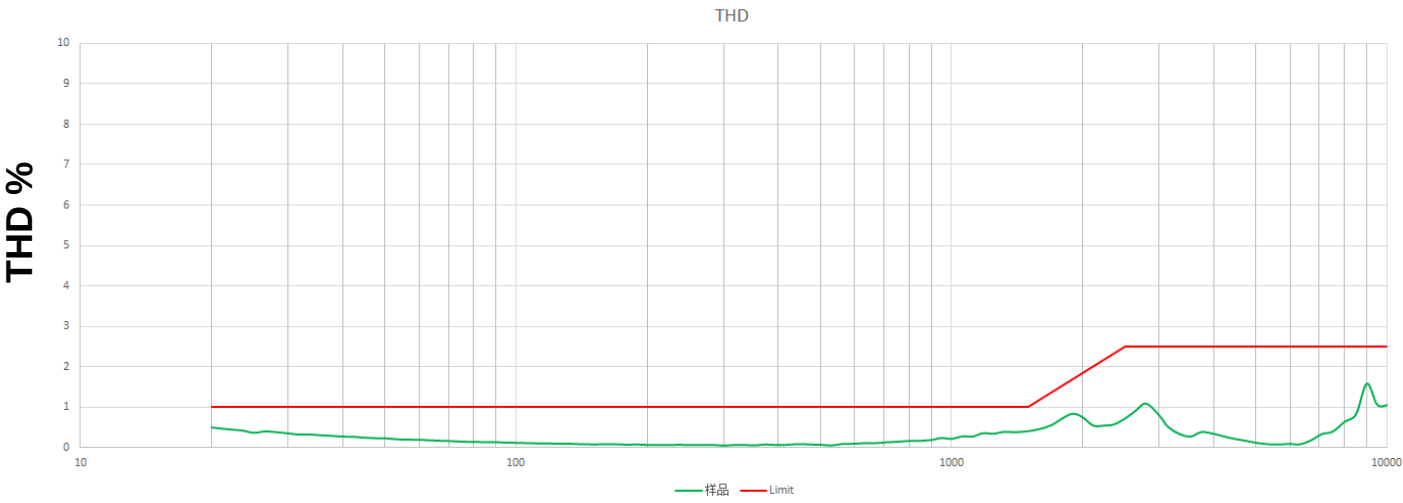

Figure 2 Frequency Hz
4.3THD: @20 Hz -1.5K Hz<1% 2.5KHz-10KHz<2.5% 1mW (0.179Vrms). See Figure 2, Table